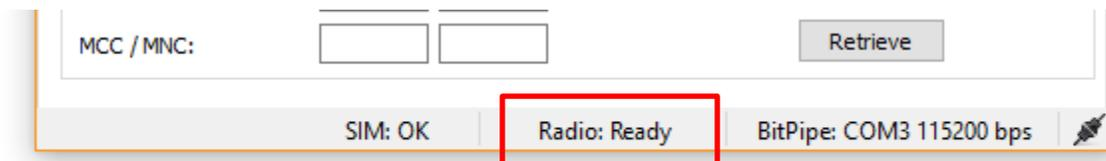
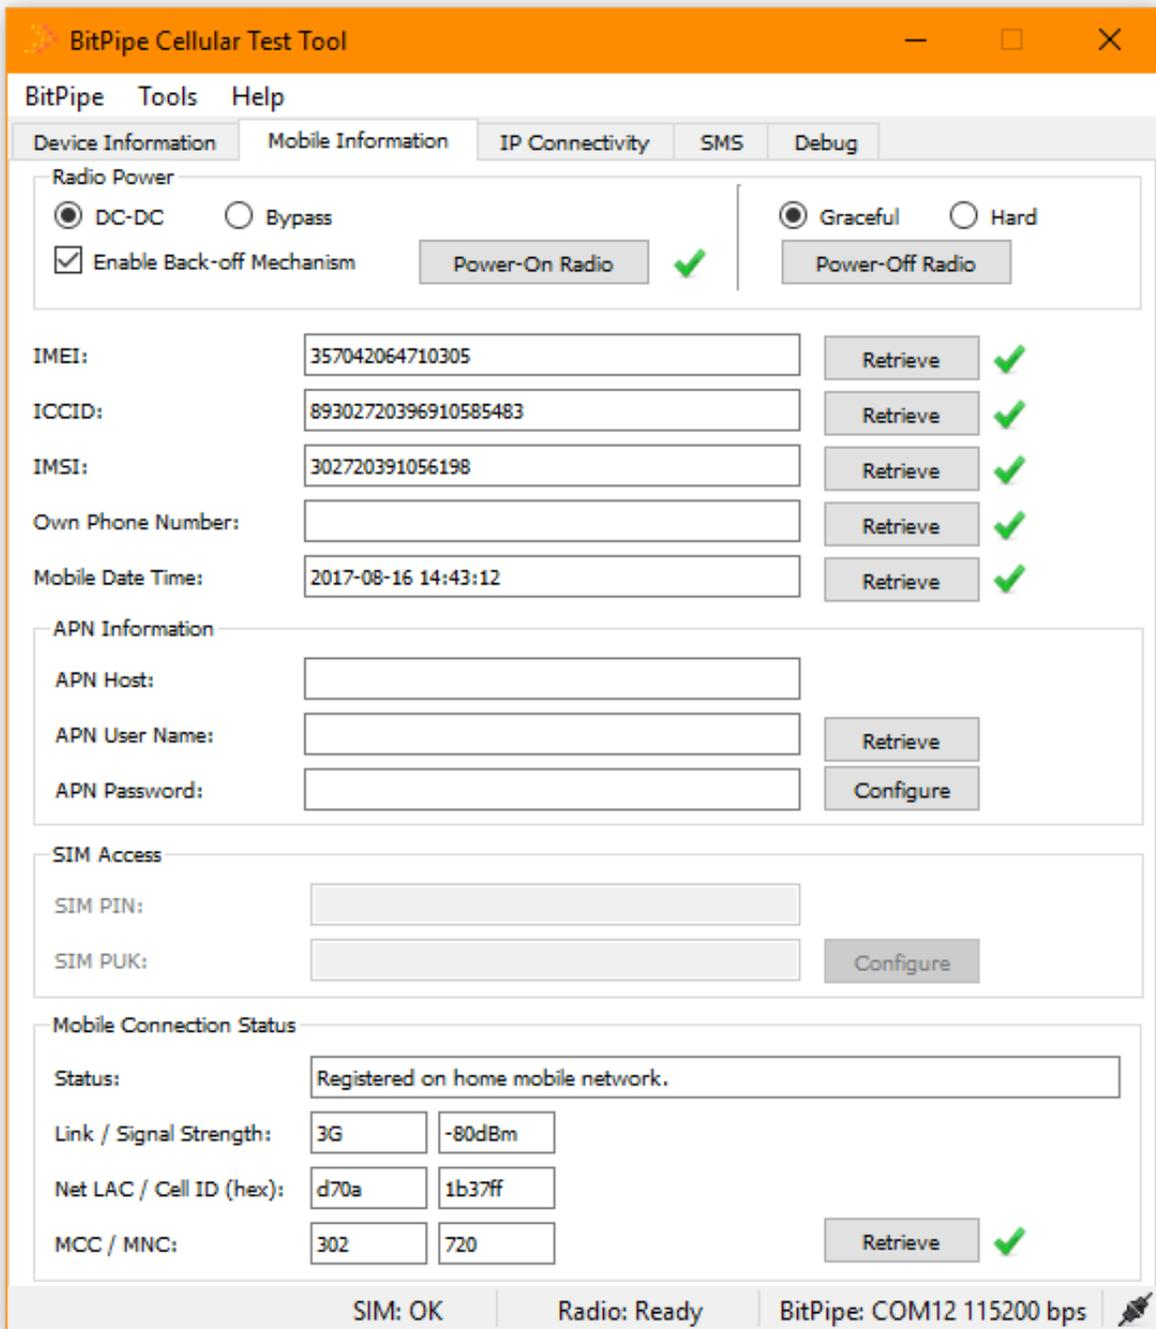

Figure 14: Radio status
Figure 15: Mobile Information tab
9. The status bar will show when the radio is ready (see Figure 14). The radio will automatically connect to the mobile network upon power up and the “Mobile Connection Status” box will contain the mobile network information (see Figure 15).
10. To retrieve the radio information (IMEI, ICCID IMSI, phone number and mobile date time), press the “Retrieve” button next to corresponding text field (see Figure 15).